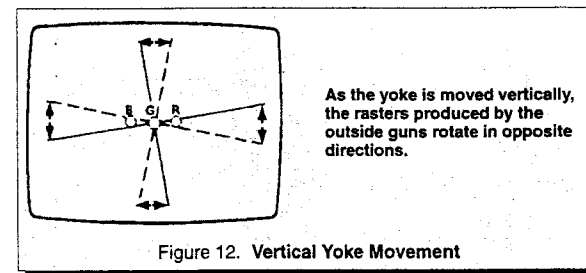
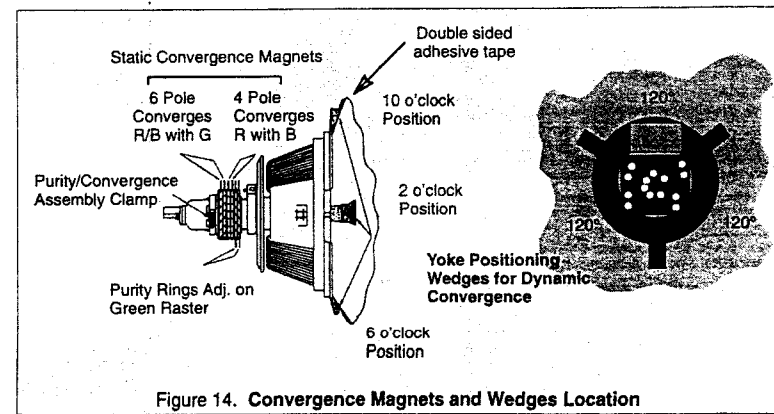

Figure 12. Vertical Yoke Movement
Figure 14. Convergence Magnets and Wedges Location
**Final Convergence Procedure** (see Figure 12 through Figure 14):